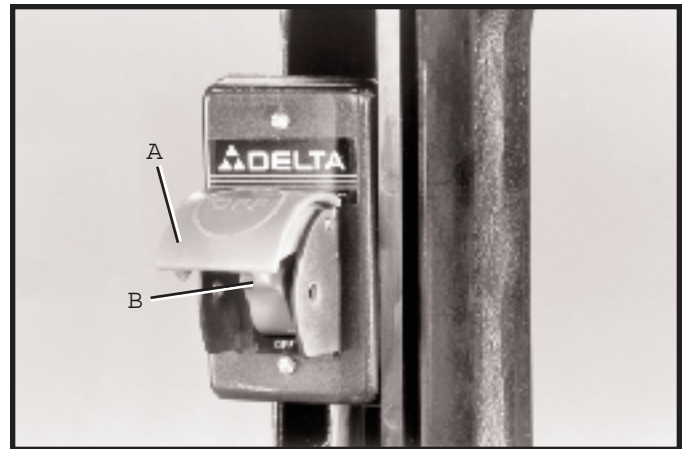

Fig. 33
1. The on/off switch is located under the switch shield (A) Fig. 33. To turn the band saw ON , move switch trigger (B) upward to the ON position.